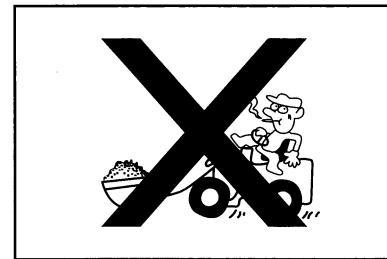

Figure1-44
- Don't stretch your arms or legs out of the cab, it can incur injure. Don't put your arms or feet on operating devices. (Figure 1-44)